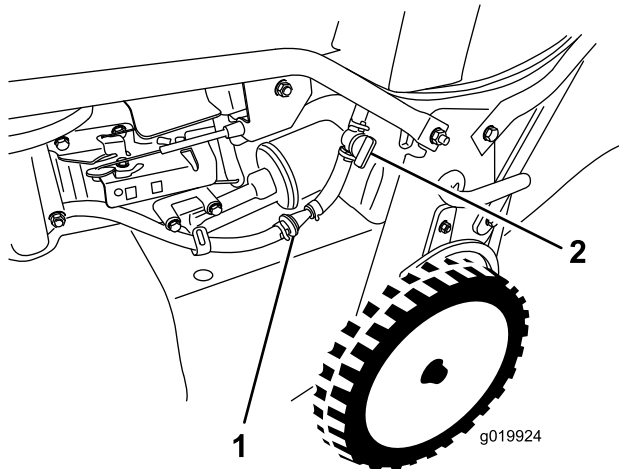

Figure 33
3. Close the fuel-shutoff valve (Figure 33).
4. Remove the fuel filter (Figure 33) from the fuel line by loosening the tube clamps surrounding the fuel filter.